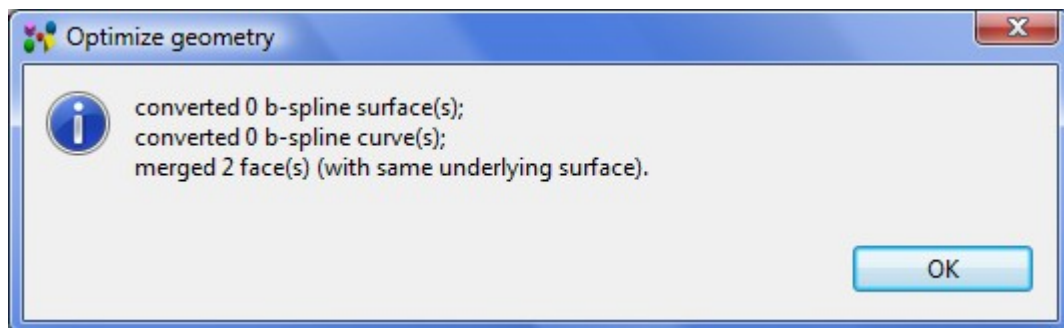

Figure 2. Optimize geometry message window with list of modified elements
- The **Optimize geometry** message window appears on the screen, containing information about number of modified faces and curves (see Figure 2). Click **OK** button to close the message window.